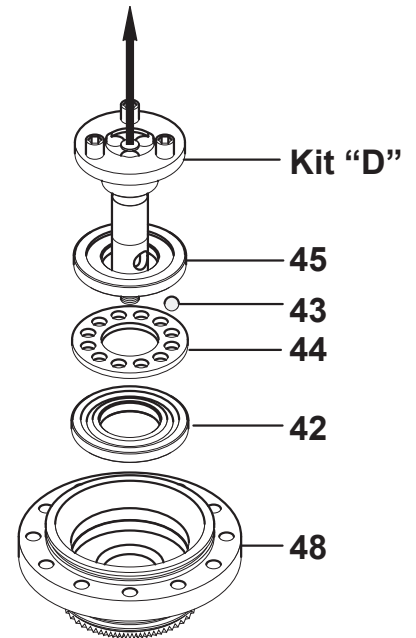

Fig. 9.10
9.3.8) Remove the pin pos.26 (kit "D") and the parts pos.45-44-43-42 from the flange pos.48 (Fig.9.10).